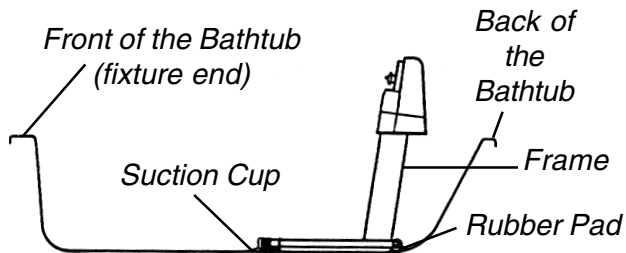

FIGURE 15 - INSTALLING THE BATH LIFT INTO THE BATH TUB
INSTALLING THE BATH LIFT INTO THE BATHTUB (FIGURE 15)
- Place the bath lift base frame in the bathtub (FIGURE 15).